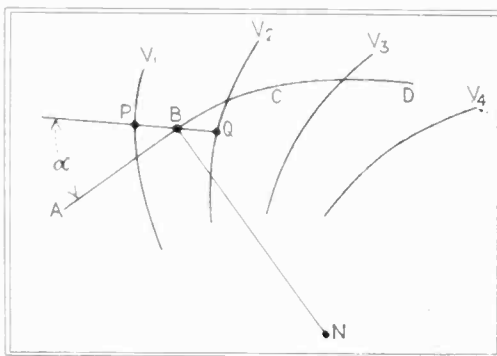

Fig. 1. Equipotential lines illustrating method
To show the use of this equation, consider the field of equipotential lines drawn in Fig. 1. Let an electron ar-
Again, equation (4) is valid for any tridimensional potential distribution. There is no ambiguity as to the position of the center of curvature (N in Fig. 1), as in any moment the plane of motion is given by the directions of the electron velocity and the potential gradient, and the center of curvature must be chosen so as to bend the electron beam towards increasing V (in Fig. 1, $V_1 > V_2 > V_3 > V_4$ has been assumed, else N would have to lie on the other side of AB). Yet to carry out the graphical construction described above, the equipotential lines must be available in the plane of motion. Therefore, the method becomes rather cumbersome if the electrons do not move in one plane. This confines its use somewhat to plane fields or to fields of rotational symmetry, where the electron remains in a meridional plane provided its initial velocity lies in that plane.